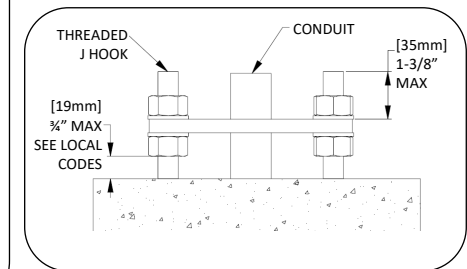

Fig.2 - Anchor bolt height
2. Set light pole over anchors, hex nuts and washers previously set in concrete. Install washers and hex nuts. Cut top of threaded rods to 1-3/8" [35mm] height from top of base plate to top of rod to allow for cover plate install, see Fig. 2.